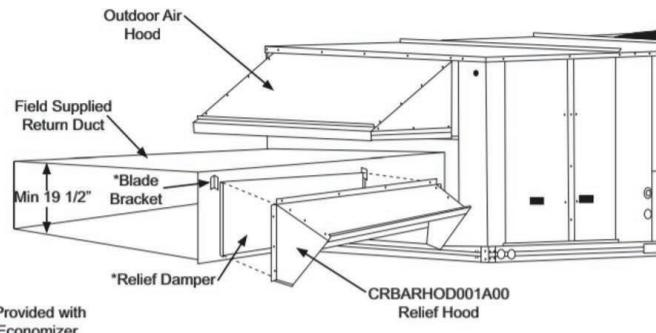

Fig. 32 — Installing CRBARDH001A00 Over Relief Damper
4. Using the blade brackets, install the relief damper onto the side of the return duct (see Fig. 32). The two brackets and relief damper are provided with the economizer.
Caulk the backside of the mating flanges to ensure a watertight seal. Install the CRBARTHOD001A00 over the relief damper and screw to the return duct, as illustrated in Fig. 32.